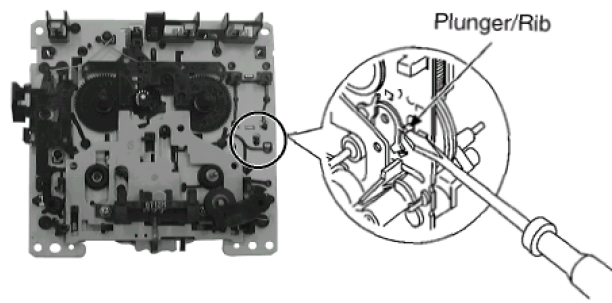

Fig. 7
3. Lift up the mechanism unit's plunger/rib with the tip of a negative screwdriver, and operate the unit in the same timing as supplying the power. (Fig. 7)